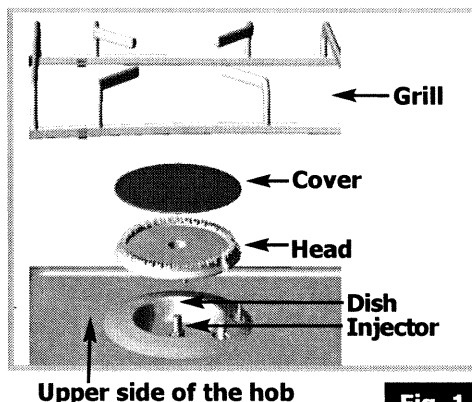

Fig. 1
- Using the spanner supplied, unscrew the injectors at the bottom of each dish and remove them (**fig 1**).